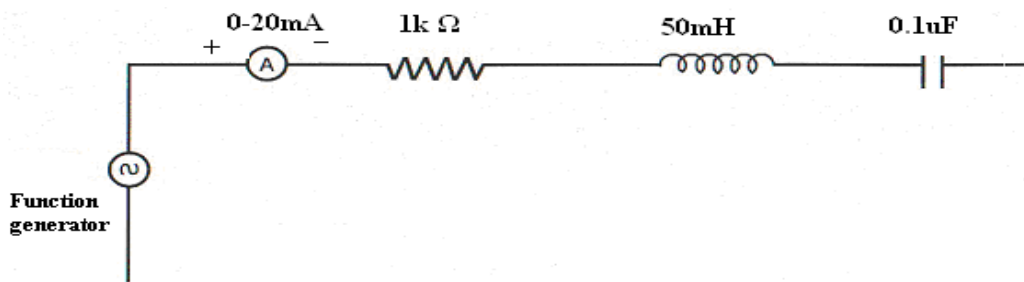
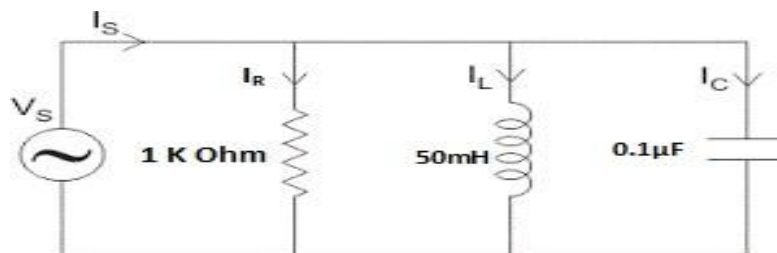

Fig.1
Fig.2
In the circuit (parallel RLC circuit) shown in figure.2, the condition for resonance occurs when the susceptance part is zero. The frequency at which the resonance will occur is known as resonant frequency. Resonant frequency,
1. Connect the circuit as shown in fig.1 for series resonant circuit & fig.2 for parallel resonant circuit.